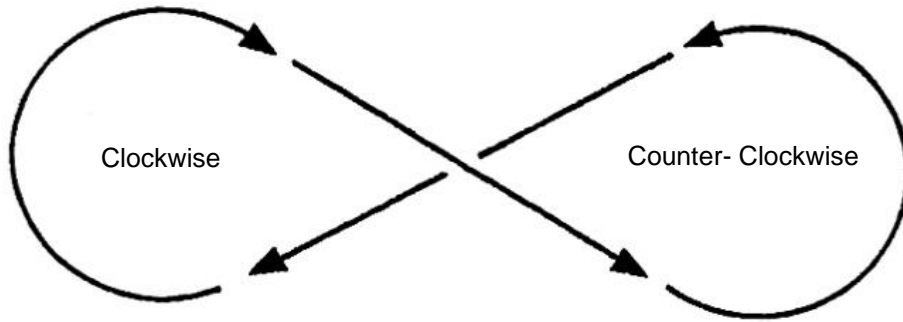

Figure 2
4. Drive in a Figure 8 pattern for 30 minutes as shown below. Turn the wheel to full-lock when turning (maximum steering angle). Accelerate up to at most 15mph when the car is straight, and coast when turning the car, with the clutch disengaged. You will hear some clunking and whining from the Differential when the clutches start working properly, this is normal. *Figure 2*.